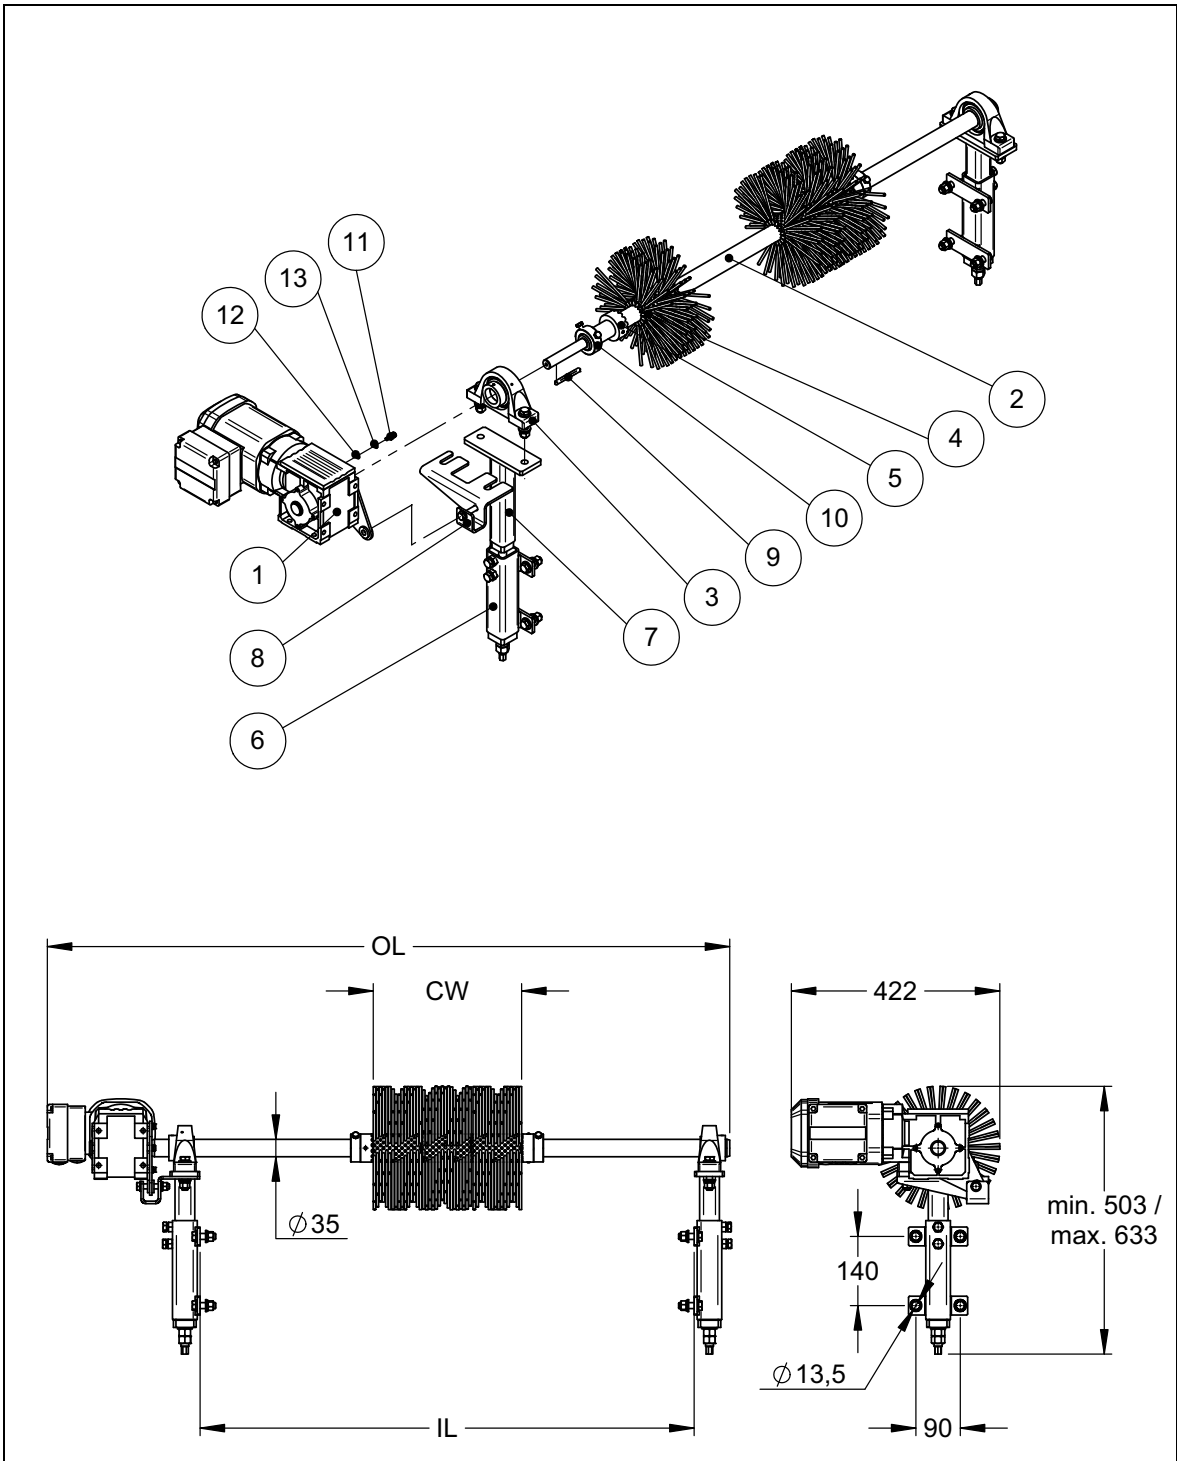

Fig. 17:
5. Worn cleaning elements (1, Fig. 17) can now be replaced.